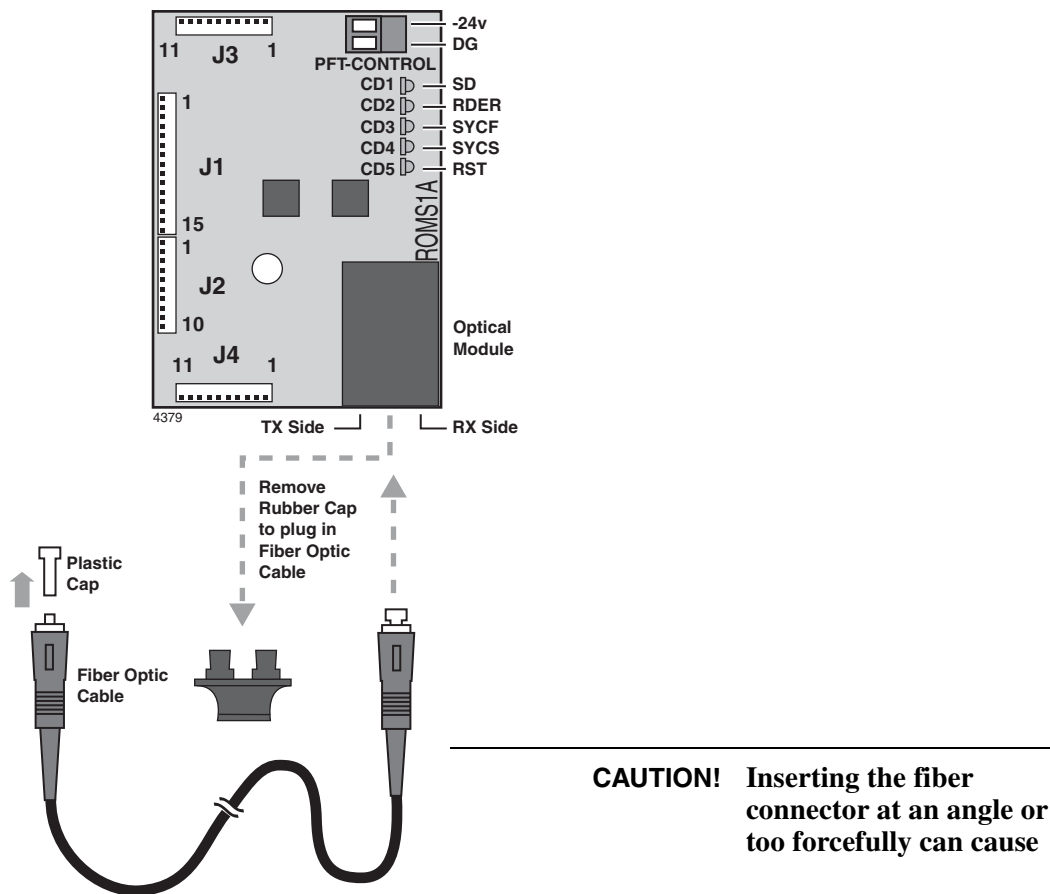

Figure 4-42 ROMS1A Subassembly
- Remove the protective rubber cap from the fiber connector on the ROMS1A daughter board. See Figure 4-42.
The ROMS subassembly and fiber optic cable connectors is shown in Figure 4-42. Table 4-15 lists the fiber optic cable specifications.